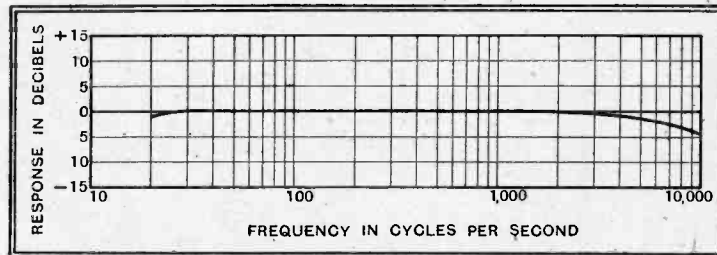

Fig. 3.—The frequency response curve is given here.
For 3.5 watts output an input of only 0.5 volt RMS is needed, so that we have actually obtained rather more gain than we set out to do. Fig. 3 shows the frequency response; at 20 c/s it is -1.0 db. and at 10,000 c/s it is 4.5 db. This is a
(1) and (2) are to some extent conflicting in their results—in this way, that if the aerial is plonked straight on to the grid of the valve it yields a maximum of its signal for amplification, but the damping down of the tuned circuit is also a maximum, so that its response is blunted. When the coupling is nil the tuned circuit is in its sharpest and most responsive condition (and likewise the most selective) but, unfortunately, there is no signal for it to respond to. Precisely what happens at intermediate adjustments depends on the nature of the aerial and of the tuned circuit; thus, if the aerial is very large and the circuit by itself very selective, the result of close coupling is at its unhappiest; but Fig. 3 illustrates typical conditions. Here it can be seen that with the closest coupling the damping due to the aerial prevails over the more complete transfer of signal, and not only is selectivity at its worst, but even on grounds of strength of reception there is no argument for this degree of coupling, and it is, in fact, never used. At an intermediate coupling, which, judged by usual practice, is generally rather close, reception is at a maximum, but selectivity is a good deal
Fig. 3.—The effect on sensitivity and selectivity of differing degrees of coupling depends on the nature of aerial and circuits, but the results shown here are typical.